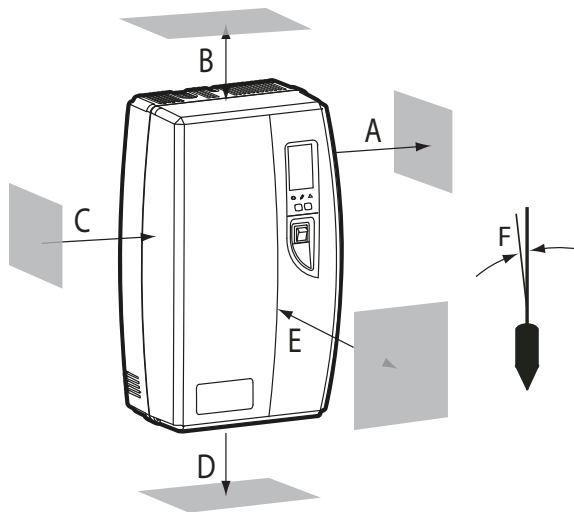

Fig. 3.a
**IMPORTANT:** Certain minimum clearances must be maintained around the unit for safety and maintenance. (See Figure 3.a. and Table 3.a)